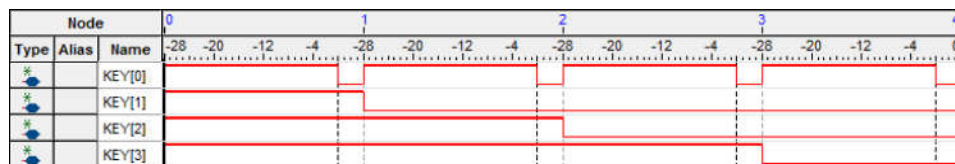

Figure 23. Possible waveforms that could result when using the Segmented Acquisition mode.
5. Go back to the SignalTap window and click **Processing > Run Analysis**. Now, press and release KEY[0], and in between clicks change the values of the other 3 keys. After you have done this 4 times, the values in the buffer will be displayed in the data window, and this will display the values that the 4 keys had at around each trigger. A possible waveform is presented in Figure 23. This resulted from the user pressing and holding one more key between each click of KEY[0].